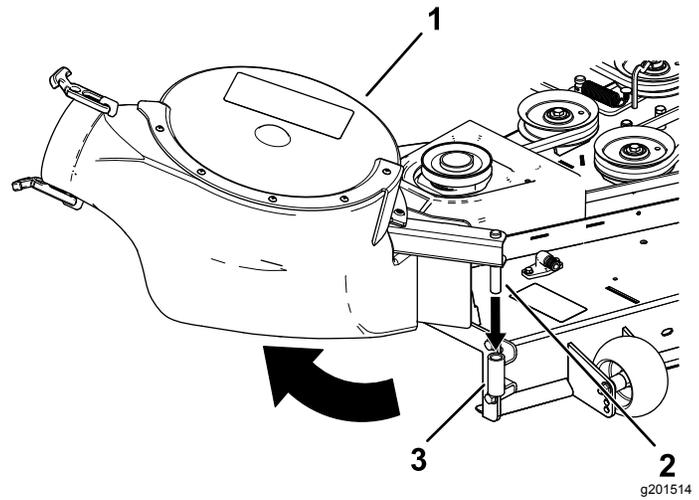

Figure 23
2. Insert the blower pivot pin into the blower support and rotate the blower assembly inward toward the machine (Figure 23).